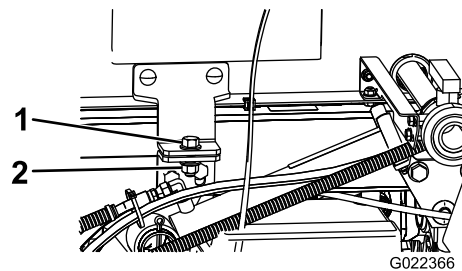

Figure 82
5. Remove the safety bolts from the front of the skid (Figure 82).